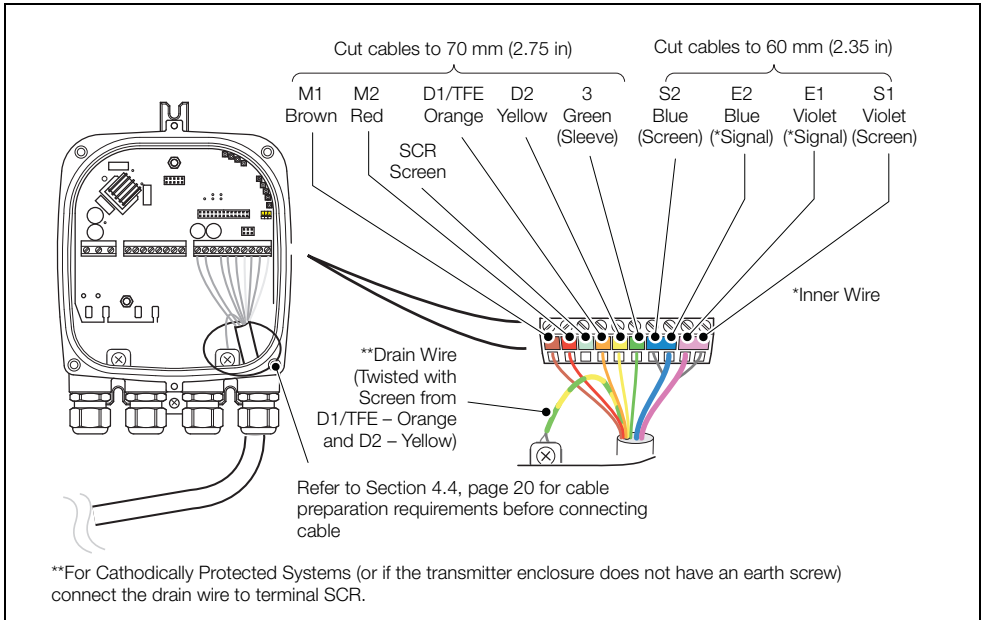

Fig. 4.10 Sensor Cable Connections at Transmitter Terminal Block – Standard System
3. Cut the cable connection wires to the lengths shown in Figs 4.10 and 4.11, page 21.